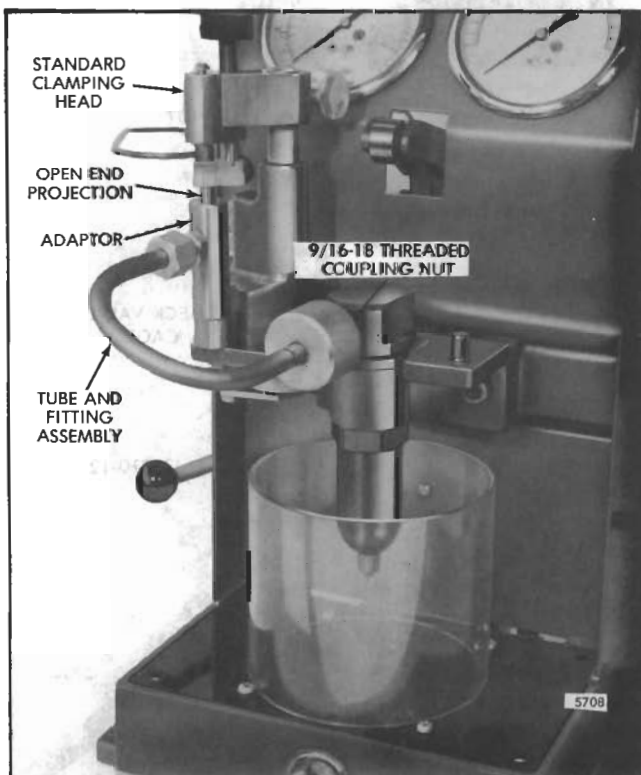

Fig. 15 - Adaptor and Tube Assembly on Injector Tester J 23010
4. Mount the adaptor and assembled injector parts in the support bracket (adaptor plate not needed). Refer to Fig. 15.
2. Swing the clamping head over the adaptor and clamp it with the oil supply outlet aligned over the open projecting end of the adaptor (Fig. 15).